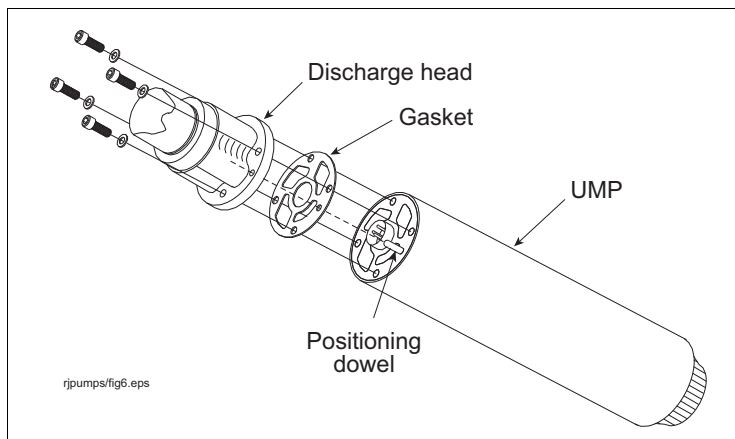

Figure 7. Aligning The UMP Gasket
2. Place the new gasket on the new UMP so that all holes align (see Figure 7).
4. Install the UMP retaining bolts and lock washers (see Figure 7). Snug and then torque the bolts using a cross pattern. Torque to 7 ft-lbs (11 N•m).